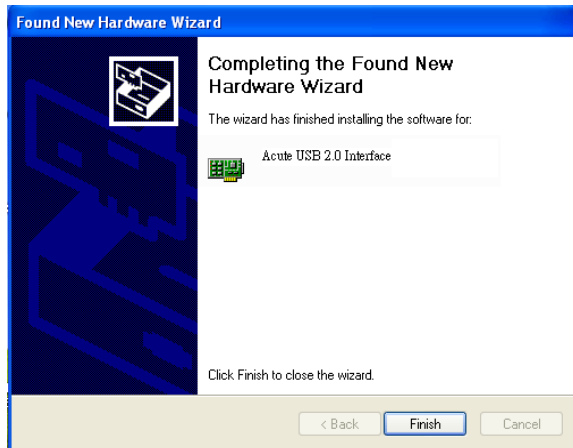
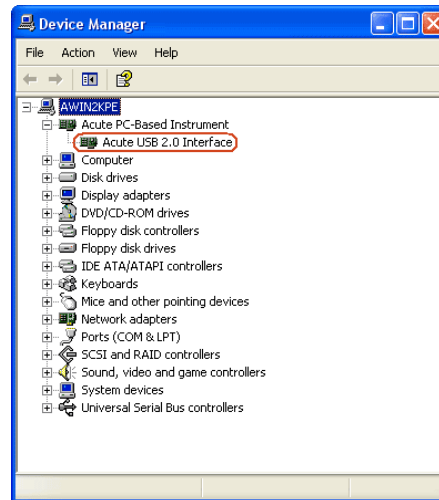

Figure 5
Figure 6
- (5) Click “Finish” (Figure 5) after the DSO driver is installed. You may see the “Acute USB 2.0 Interface” in Device Manager (Figure 6).
You will see the “Acute USB 2.0 Interface” in the Device Manager (Figure 6).